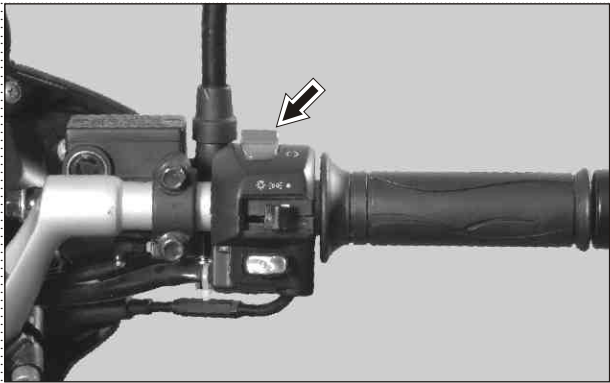

Fig. 5.8
- Engine kill switch is located at the right side of handle bar assembly on the switch assembly handle R. (Fig. 5.8)